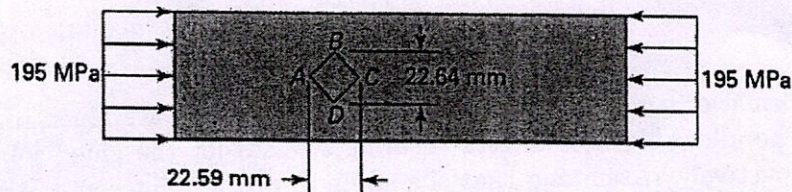

Figure 3
Q.4 A $16 \text{ mm} \times 16 \text{ mm}$ square $ABCD$ is sketched on a plate before loading. Subsequent to loading, the square becomes a rhombus illustrated in Figure 3. Determine (a) the modulus of elasticity, (b) Poisson's ratio, and (c) the shear modulus of elasticity.